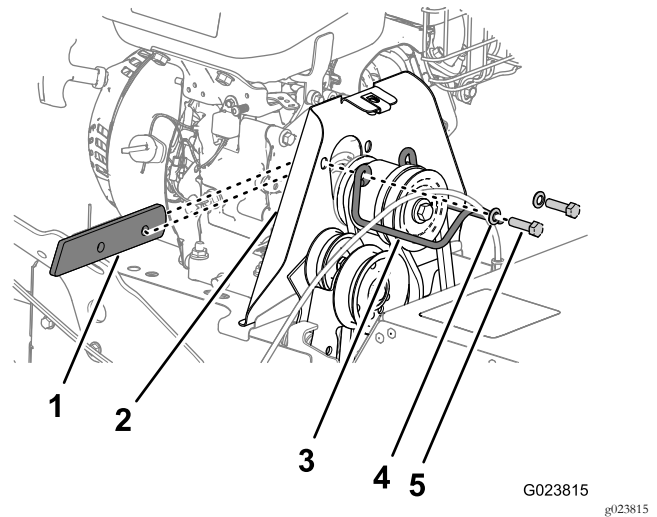

Figure 39
2. Remove the 2 bolts and 2 washers that secure the belt guide to the machine, and remove the belt guide and the spacer (Figure 39).
- Align the spacer between the engine and the pulley shined and align the holes in the spacer, engine, and shield (Figure 39).
- Secure the pulley guide to the machine with the bolts and washers (Figure 39) that you removed in step 2 of Removing the Broom-Drive Belt (page 26).